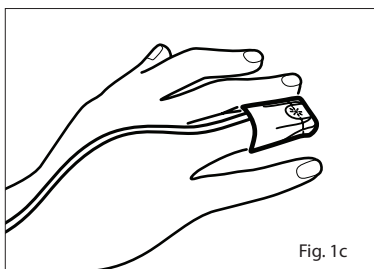

Fig. 1c
4. Refer to Fig. 1c. Fold the sensor over the finger with the emitter window (✱) positioned over the fingernail. Secure the wings down, one at a time, around the finger.